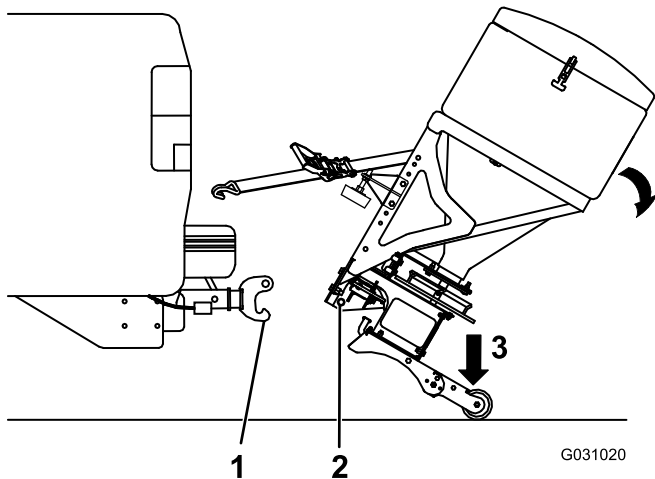

Figure 22
3. Grip the spreader firmly and step on the leg assembly to rotate it back until the bottom pin of the RT3 attachment clears the hook on the RT3 hitch (Figure 22).